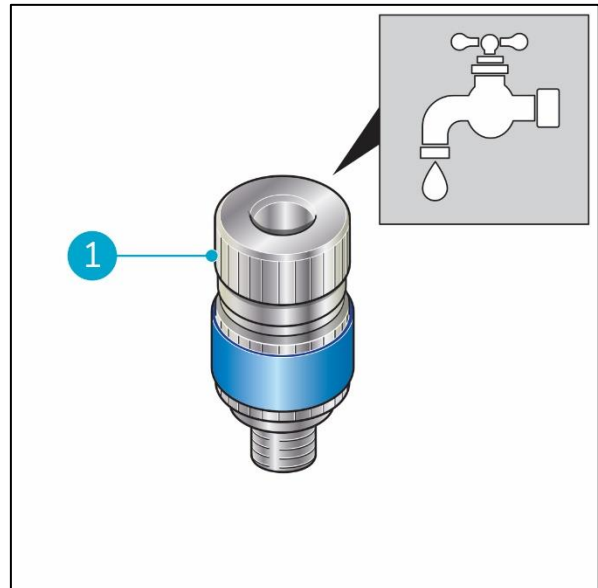

Figure 21
2. Flush the spray nozzle (Figure 21, pos 1) with tap water.